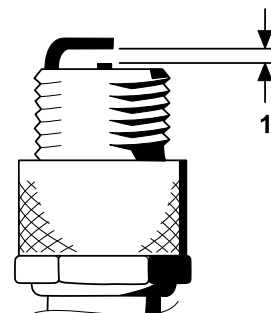

Figure 44
4. Set the air gap between the center and side of the electrodes at 0.76 mm (0.030 inches) as shown in Figure 44.